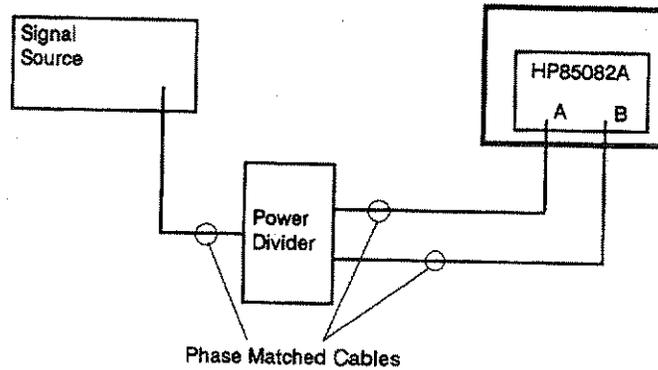

Figure 5-9. LF Phase Adjust Setup
1. Configure the equipment as shown in Figure 5-9.